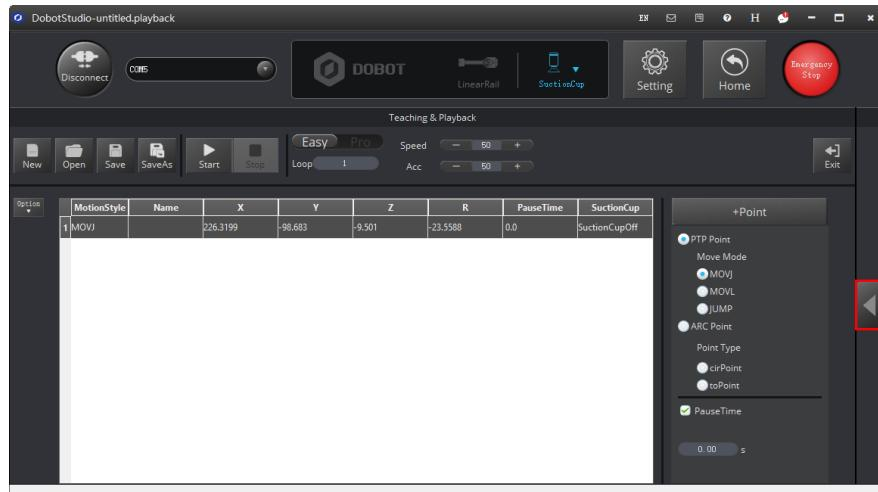

Figure 5.21 Display the Operation Panel
2. Click to display the **Operation Panel**, as shown in Figure 5.21.